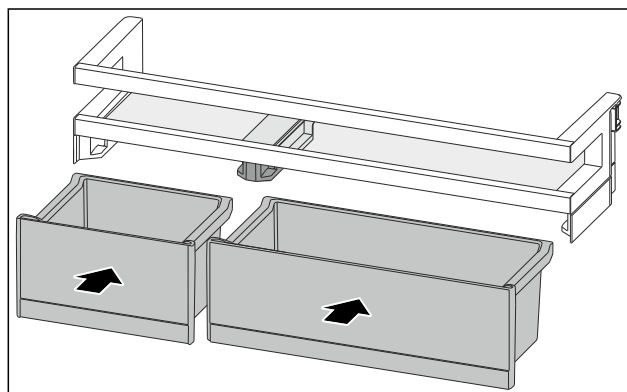

Fig. 110
- Insert the VarioBoxes in reverse order. (see Fig. 110)